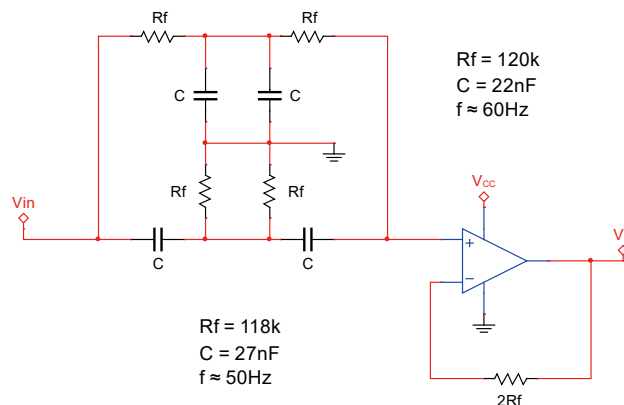

Figure 3. Notch Filter Circuit
- 3) If the signal contains obvious power-frequency interference, use the notch filter circuit shown in Figure 3.